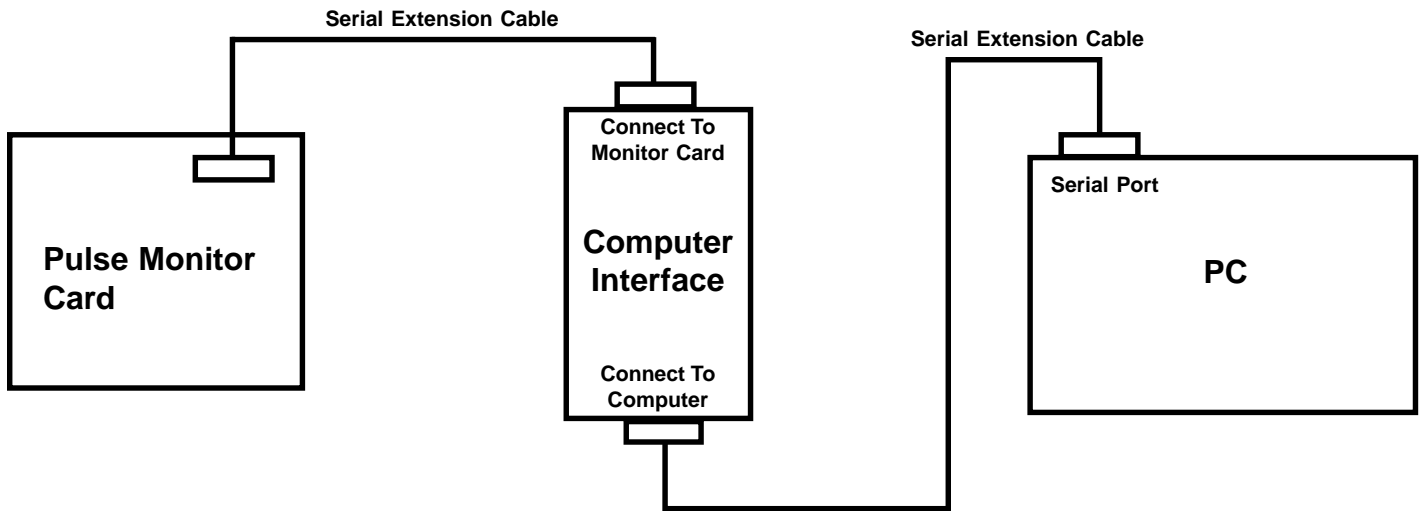

Figure 3
Initial programming can be done before or after the Pulse monitor card is installed. Open the Pulse software on your computer and connect the Pulse monitor card as shown in Figure 3. It is recommended that the following parameters be set before collecting any data.
- 1) Connect the Pulse monitor card, computer interface, PC and serial extension cables as shown in Figure 3.